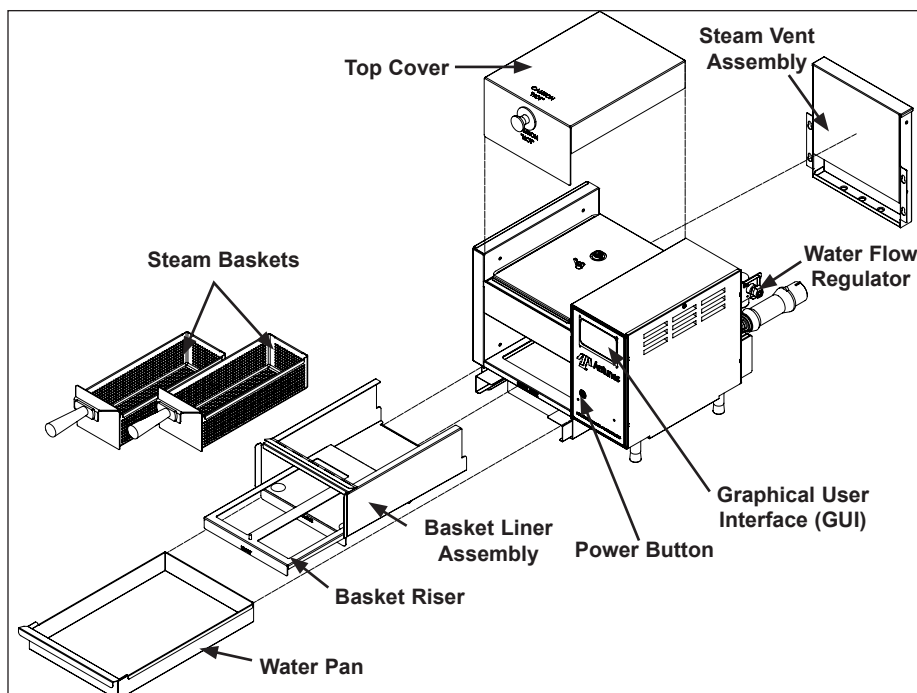

Figure 1. Components
4. Wash, rinse, and sanitize all components (Figure 1) at the sink. Wipe all surfaces of the unit with clean, sanitized towel.